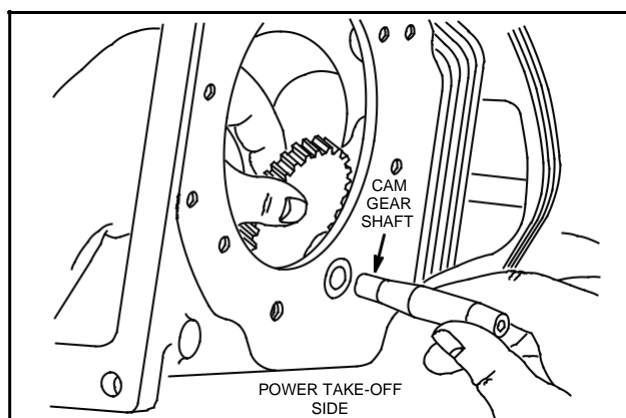

Fig. 885 - INSTALLING CAMSHAFT
3. Slide cam gear shaft thru power take-off bearing side and into cam gear, Fig. 885.